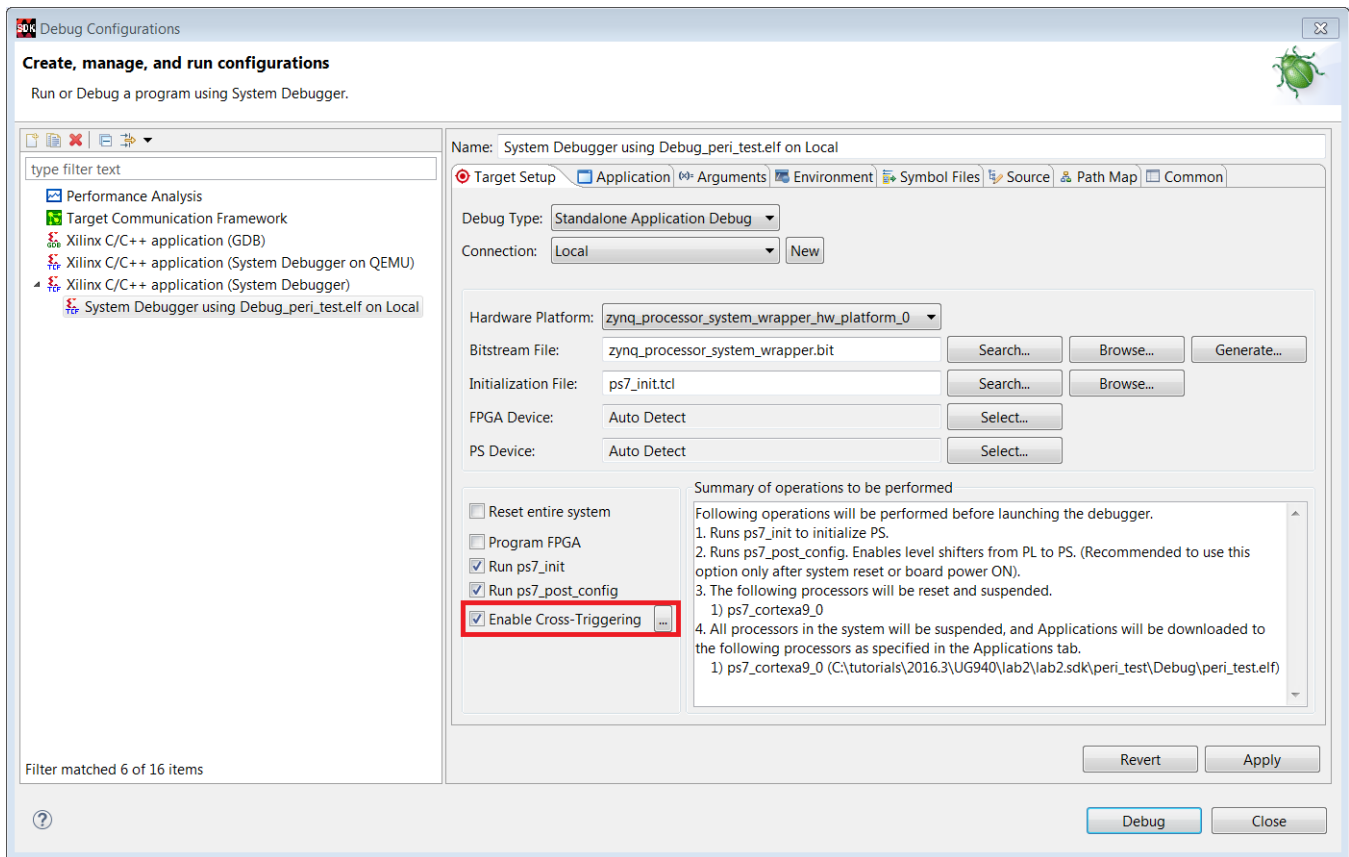

Figure 64: Debug Configurations dialog box
12. Click on the browse button for Enable Cross-Triggering option as shown in Figure 64.